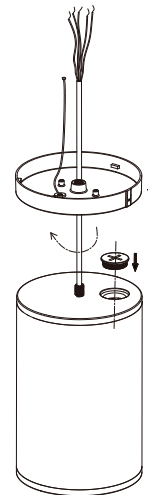

Fig 2
2. Secure the mounting plate to the fixture. (Fig 2)